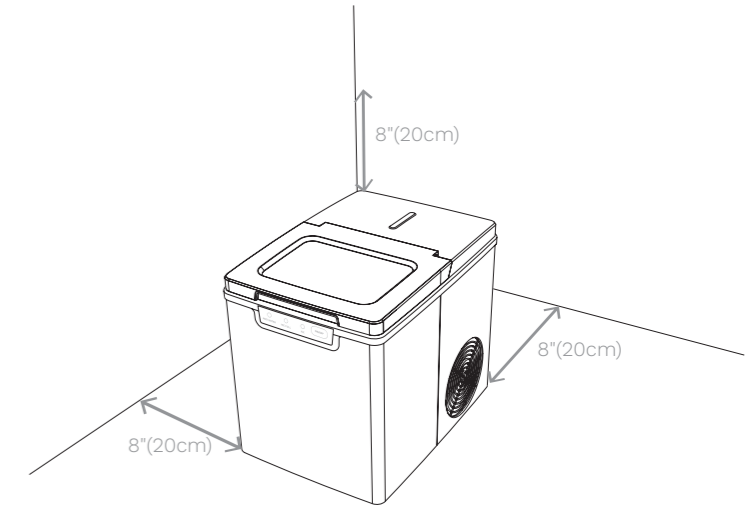

Fig. 3
2. Place your Ice Maker on a dry, flat, and sturdy surface. Leave a clearance of 8 inches (20 cm) on each side of the Ice Maker for proper ventilation (see Fig. 3).